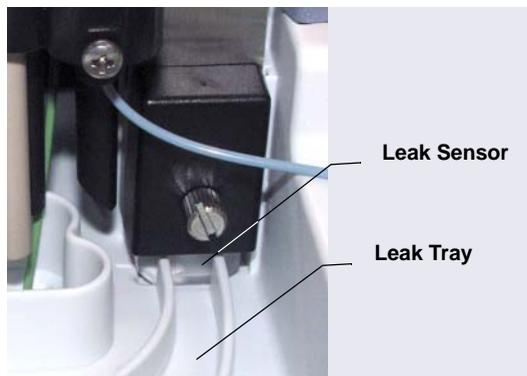

Figure 4-1. Leak Sensor and Leak Tray
3. After eliminating the leak, wipe up all liquid and dry the leak sensor (see Figure 4-1). To do so, use a cloth or tissue to absorb any liquid that has accumulated in the tray.